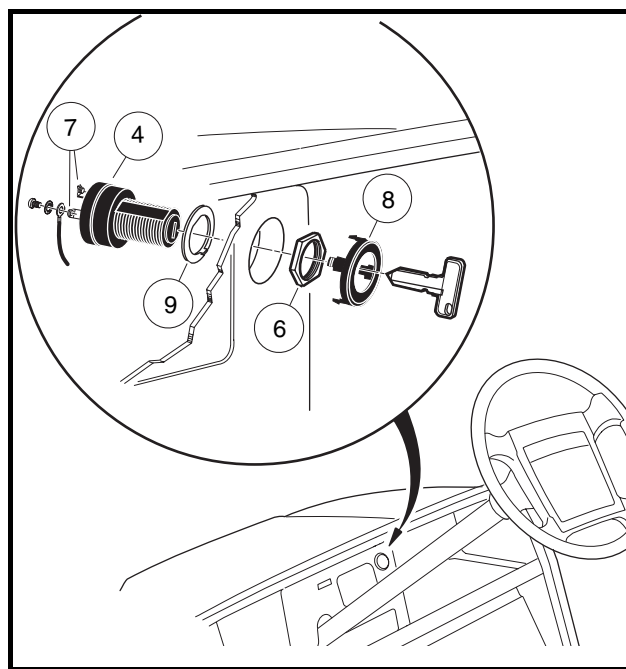

Figure 12-2 Key Switch
4. From the back of the dash panel, push down on the retaining tabs surrounding the key switch (4) and remove the key switch cap (8). Hold the key switch and remove the switch retaining nut (6) from the outside of the dash panel (**Figure 12-2, Page 12-2**).
1. Position the key switch and flat washer (9) in the center dash, then install and tighten the switch retaining nut (6) to 40 in-lb (4.5 N·m). Install key switch cap (8) in center dash (**Figure 12-2, Page 12-2**).
3. Install center dash by reversing removal procedure. Make sure key switch terminals (7) do not touch frame and that the center dash panel is properly seated and snapped into place (**Figure 12-2, Page 12-2**).